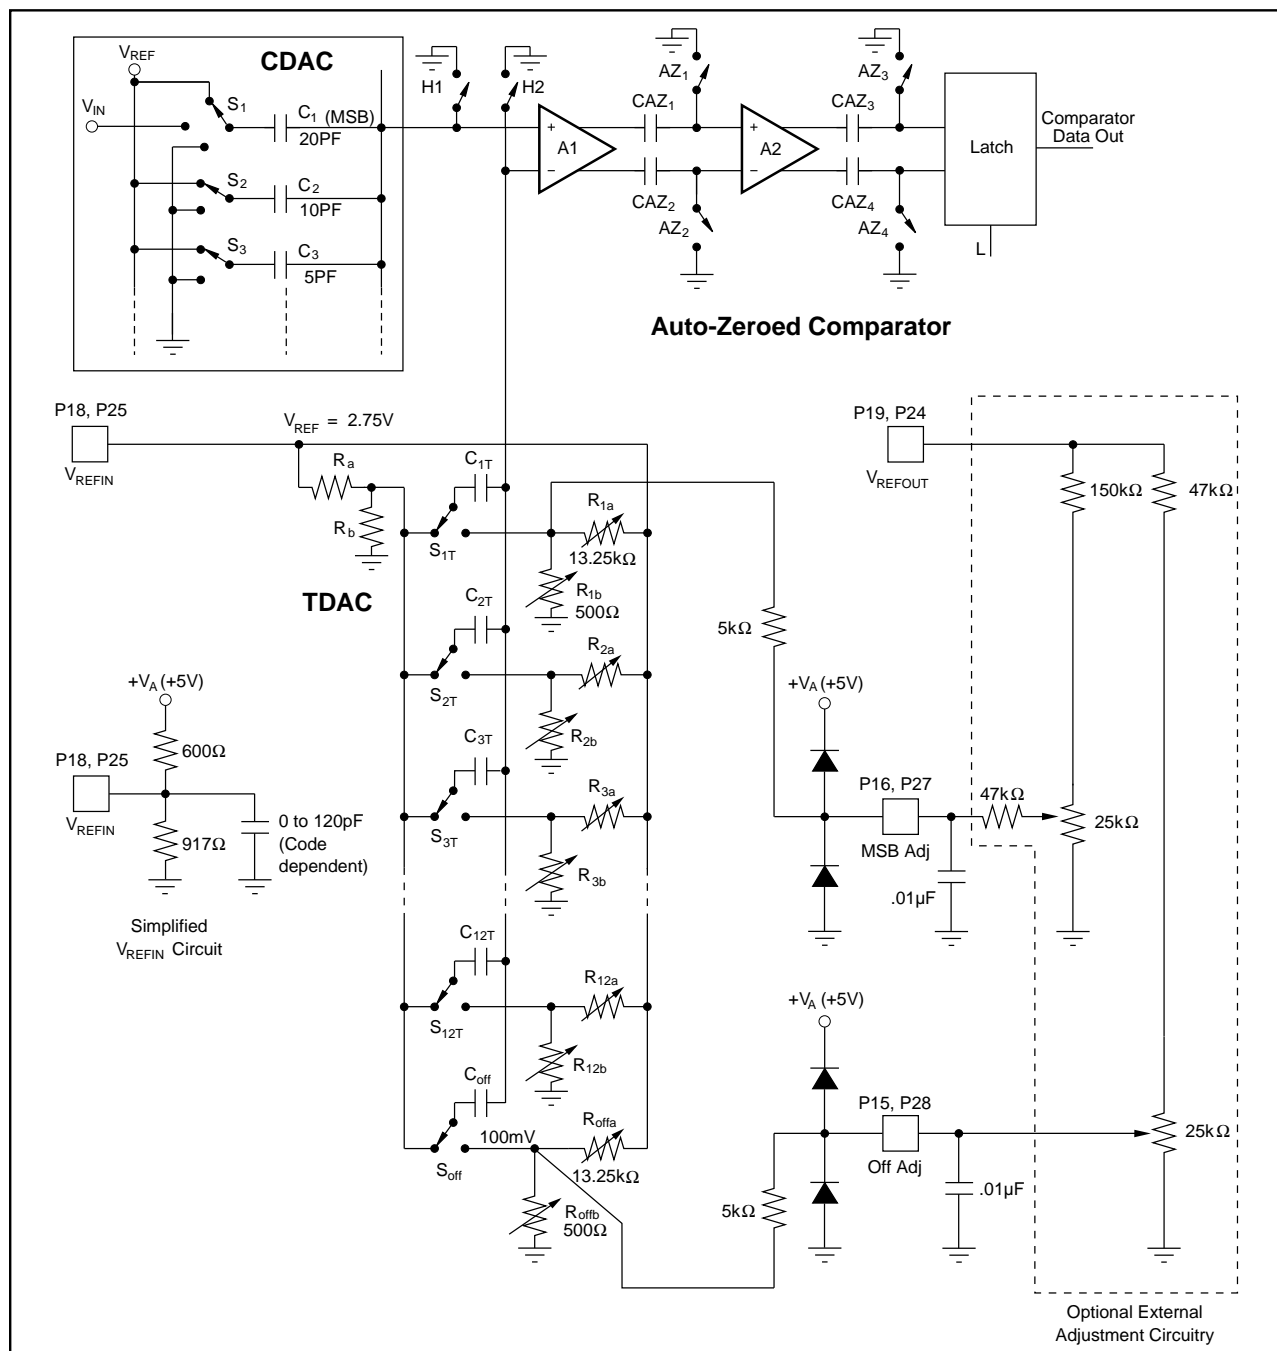
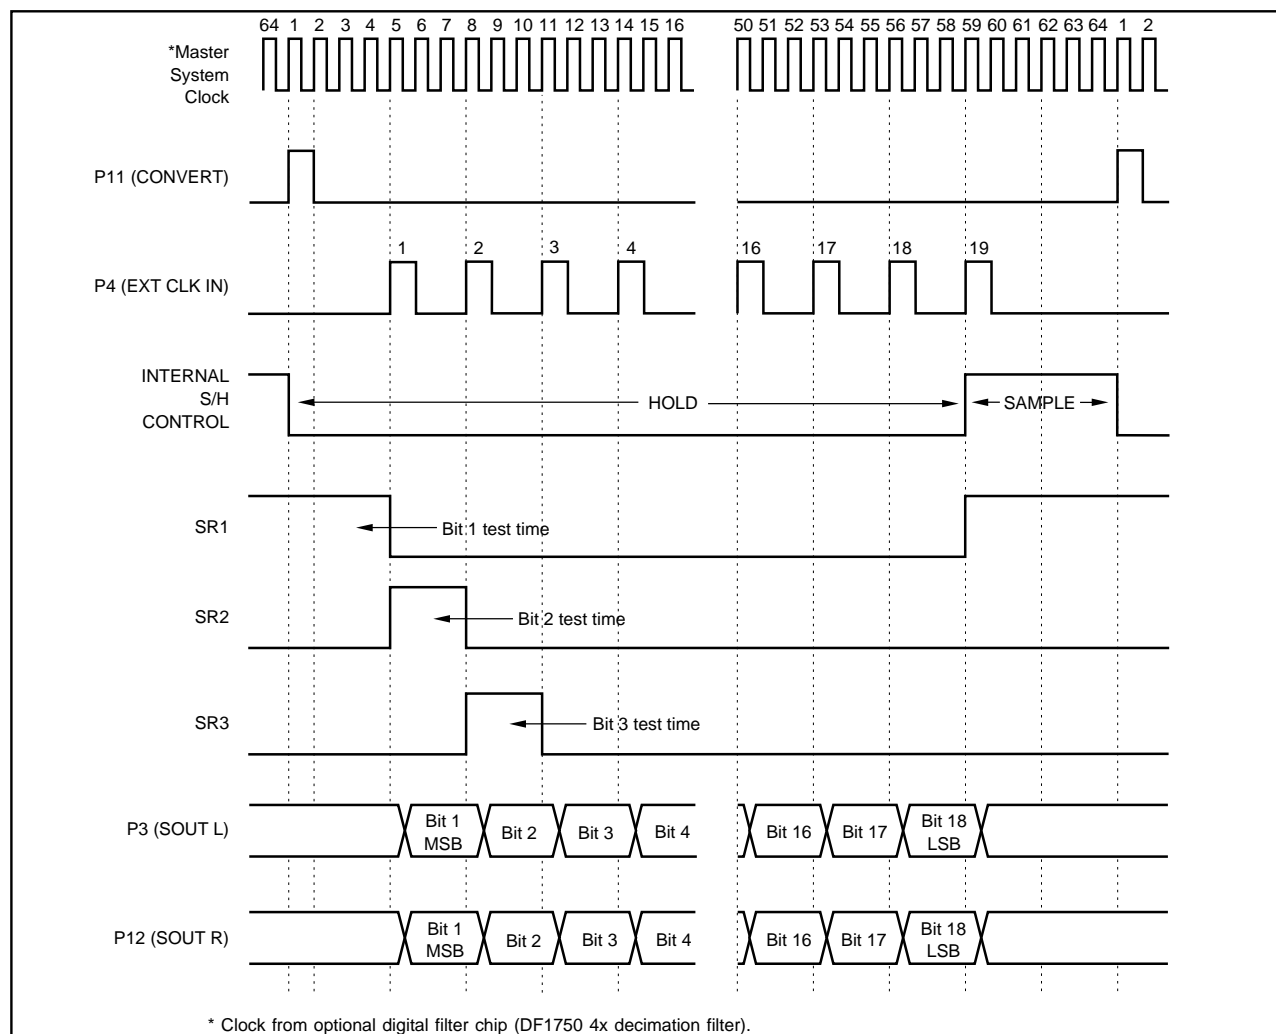

FIGURE 1. PCM1750 Simplified Circuit Diagram.
FIGURE 2. PCM1750 Input/Output Timing Diagram.
NOTES: (1) Binary Two's Complement coding. (2) The PCM1750 is tested and guaranteed at 5.2 μs , however it will operate at 4.5 μs . The dynamic performance is not guaranteed or tested at this conversion rate. (3) Ratio of $Signal_{RMS} / (Distortion_{RMS} + Noise_{RMS})$. (4) A/D converter sample frequency (4 x 48kHz; 4X oversampling per channel). (5) A/D converter input frequency (signal level). (6) Referred to input signal level. (7) Ratio of $(Distortion_{RMS} + Noise_{RMS}) / Signal_{RMS}$. (8) Externally adjustable to zero error. (9) Differential non-linearity error at bipolar major carry input code. Externally adjustable to zero error. (10) Full scale range (5.50V). (11) Refer to equivalent circuit in Figure 1. (12) Worst case operating condition. Refer to typical performance curves.
After each conversion, the dual ADC returns to the SAMPLE mode in order to track the input signals. The switches shown in the simplified circuit diagram of Figure 1 will then be in the following states: S1 connects V_{IN} to C1; S2 to S18 connect C2 to C18 to V_{REF} ; H1 and H2 connect the top plates of the capacitor arrays to analog common; and the latching comparator is switched into its auto-zero mode by closing AZ1 to AZ4. Notice that C1 serves two purposes: it samples and stores the input signal V_{IN} and it is the MSB of the CDAC. Storing V_{REF} on C2 to C18 creates a bipolar offset, enabling V_{IN} to cover a span from $-V_{REF}$ to $+V_{REF}$.
occurs during the SAMPLE period (see the timing diagram shown in Figure 2). These errors are stored on the AC coupling capacitors (CAZ1 to CAZ4, shown in Figure 1) between the gain stages. During the SAMPLE period the inputs to gain stages A1 and A2 and the latch are grounded by switches H1, H2, and AZ1 to AZ4. Capacitors CAZ1 and CAZ2 track the amplified offset voltage of gain stage A1 and capacitors CAZ3 and CAZ4 do the same for A2. At the beginning of a conversion cycle, the autozeroing switches open and the instantaneous amplified value of both the DC offset voltage and the low-frequency flicker noise is stored on the coupling capacitors to produce zero comparator offset during a conversion cycle.
The timing diagram in Figure 2 illustrates the successive approximation routine of the PCM1750. Control signals CONVERT and CLK are derived from a master system clock which comes from a $256f_s$ (256 X the base sampling frequency of 48kHz) clock used by the optional digital filter. There are 64 clocks shown in the timing diagram because the PCM1750 is shown operating at 4 times the standard 48kHz sample rate (192kHz).
analog common (see Figure 1). This terminates the comparator auto-zero cycle and simultaneously switches (co-phase sampling) both converters from tracking their respective input signals into the HOLD mode, thus capturing the instantaneous value of V_{IN} (with a small delay specified as the aperture time).
For example, the testing of bit-2 proceeds in the following manner. The positive pulse from the second shift register element SR2, (see Figure 2 and 4) is applied to the bit-2 data latch and NOR gate. The NOR gate in turn drives S2 and switches bit-2 at the beginning of the bit-2 test interval. Note that the bit interval must be long enough to allow both the comparator input to settle and the comparator to respond. On
Notice from the timing diagram in Figure 2 that the successive approximation algorithm operates synchronously with an external clock to minimize digitally-coupled switching noise from corrupting either the sample-to-hold operation or the critical comparator bit decisions. The two serial output data streams are derived synchronously from the respective latched comparator outputs and are available after a delay of one CLKIN cycle as illustrated in Figure 2. The serial output driver cells are TTL and CMOS compatible.
Operation of the TDAC (trim DAC), which is laser trimmed at the wafer level, is described using bit-1 as an example. Switch S1T (see Figure 1) operates between two voltage levels—a reference level set by voltage divider Ra, Rb and a laser trimmable level set by R1a, R1b. The differences of these two levels is coupled by capacitor C1T to the minus input of the comparator to generate a correction voltage for